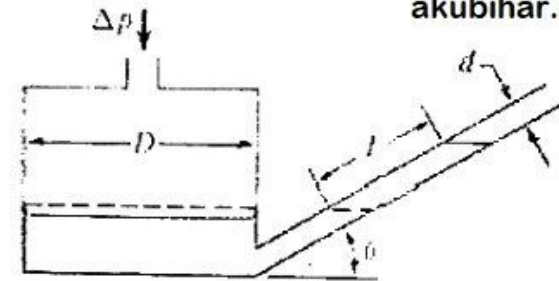

Fig. 1
3. (a) An inclined-tube reservoir manometer is constructed as shown in Fig. 1. Derive a general expression for the liquid deflection, L, in the inclined tube, due to the applied pressure difference, Δp . Also obtain an expression for the manometer sensitivity, and discuss the effect on sensitivity of D, d, θ and SG. akubihar.com 9